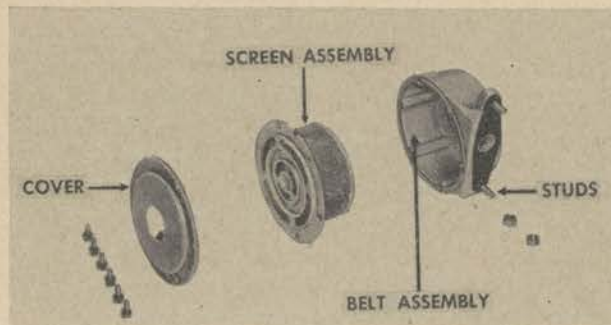

Figure 190. Suction bell and screen.
(4) Suction bell and screen. (a) Removal. Remove the oil pump suction bell through the side opening of the oil pan by backing off the nuts from the studs (fig. 190) that hold it to the oil pump. Remove the capscrews that hold the cover to the bell assembly and slide out the screen as-
while the engine is hot. Pour two gallons of engine flushing oil into the crankcase. Run the engine for three minutes, checking to insure that the oil gage indicates pressure. Then drain out the flushing oil. If sludge is noticeable when removing the oil from the crankcase, inspect the pressure system oil pump screen and clean it if needed. (See *f*(4) above and fig. 190, suction bell.)
g. COOLING SYSTEM. (1) *Description.* (a) A gear-driven centrifugal pump circulates a coolant through the cooling system. The water jackets extend the whole length of the cylinders. Water directors provided in the cylinder heads direct the water against the valve ports and precombustion chambers.